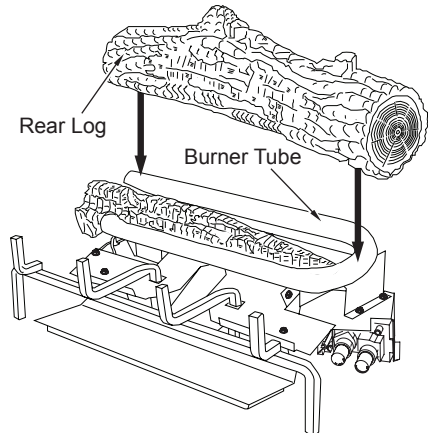

Figure 50 - Installing Rear Log
2. Place the rear log on the base assembly as shown in Figure 50. The rear log has grooves in the bottom which will allow the log to sit on the burner and behind the bottom ember log